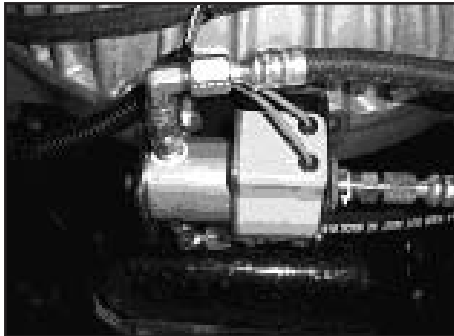

Fig. 5
3. One recommendation for installation of the P.T.O. Remote Solenoid Valve is to locate it at the bottom forward area of the transmission housing. (**Fig. 5**)